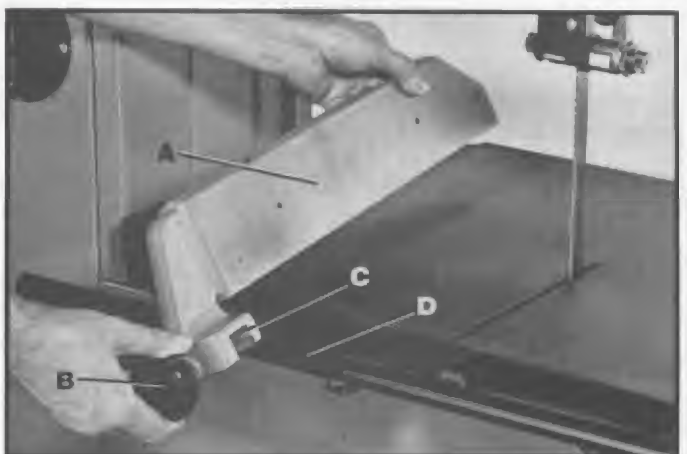

Fig. 5
The fence (A) Fig. 5, is supplied as standard equipment with your bandsaw and is assembled to the table as follows:
1. Loosen fence locking knob (B) Fig. 5, and position opening (C) of fence bracket over guide rail (D).
2. Tighten fence locking knob (B) Fig. 5, to hold fence in position.